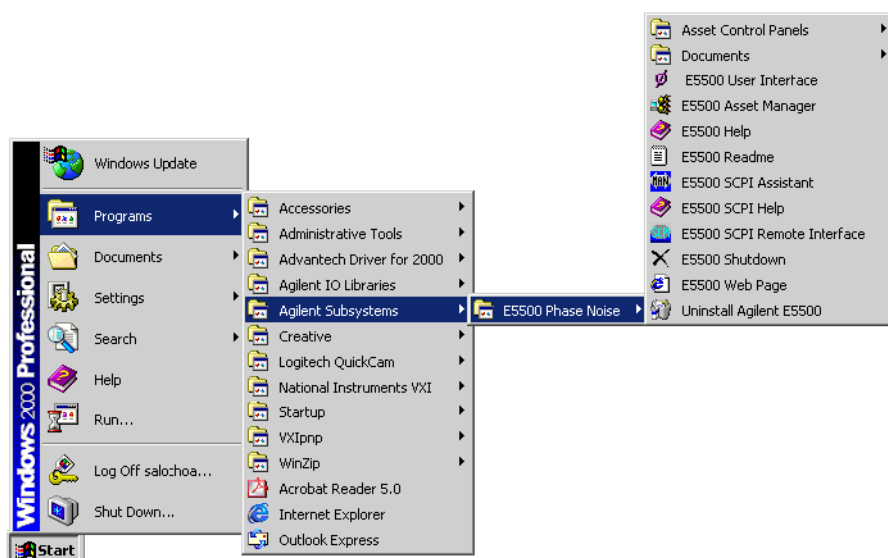

Figure 5-1 Navigate to E5500 User Interface
- 3 Using Figure 5-1 as a guide, navigate to the **E5500 User Interface**.